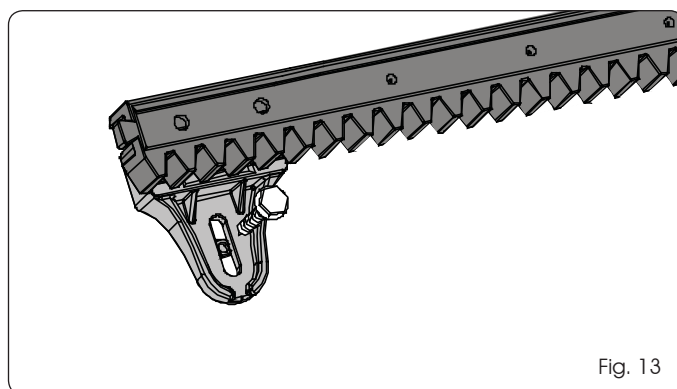

Fig. 13
5.4.3 CREMALHEIRA EM NYLON PARA PARAFUSAR (Fig. 13)